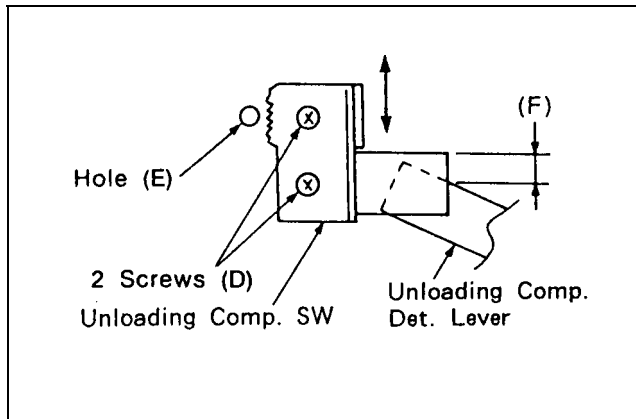

Figure 7-24-3 Unloading Completion SW
2. Loosen 2 screws (D) as shown in figure 7-24-3.
3. Insert Fine adjustment driver (VFK0446) into the hole (E) as shown in 7-24-3.
4. Turn Fine adjustment driver (VFK0446) so that the clearance (F) is $1.8 \pm 0.2\text{mm}$ as shown in figure 7-24-3.
5. Tighten 2 screws (D).